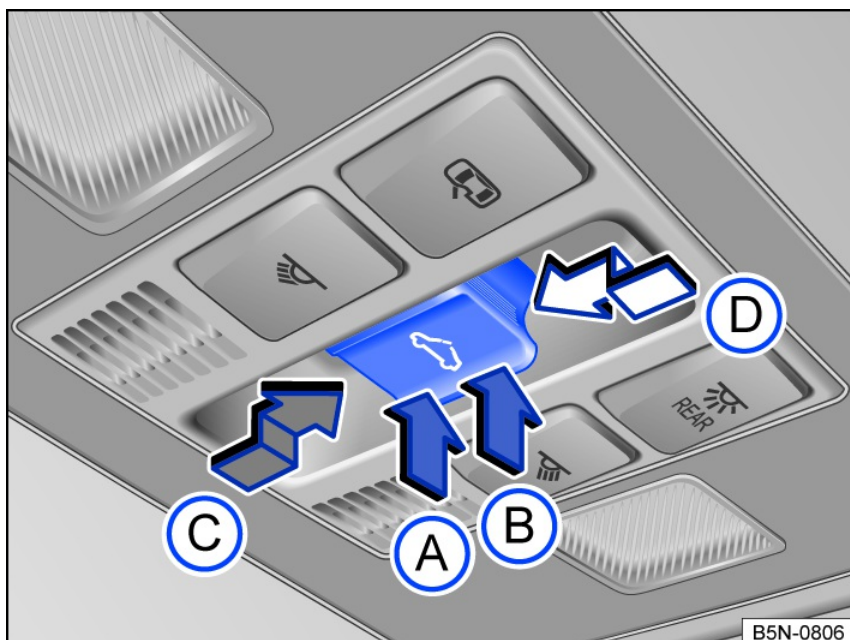

Fig. 58 In the headliner: sunroof button.
- Manual process: Press the fig. 58 **B** button to the first level.